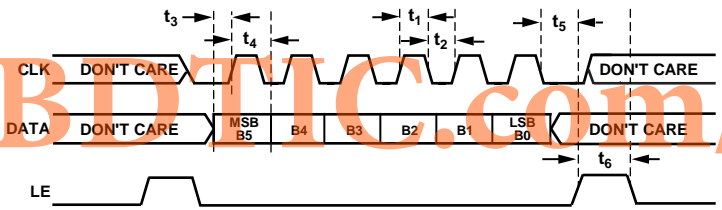

Figure 35. SPI Timing Diagram (Data Is Loaded MSB First, Serial Mode)
Table 5 provides details about the timing characteristics for the SPI signals—namely, the clock (CLK), latch enable (LE), and data (DATA) signals—and Figure 35 shows the corresponding SPI timing diagram.